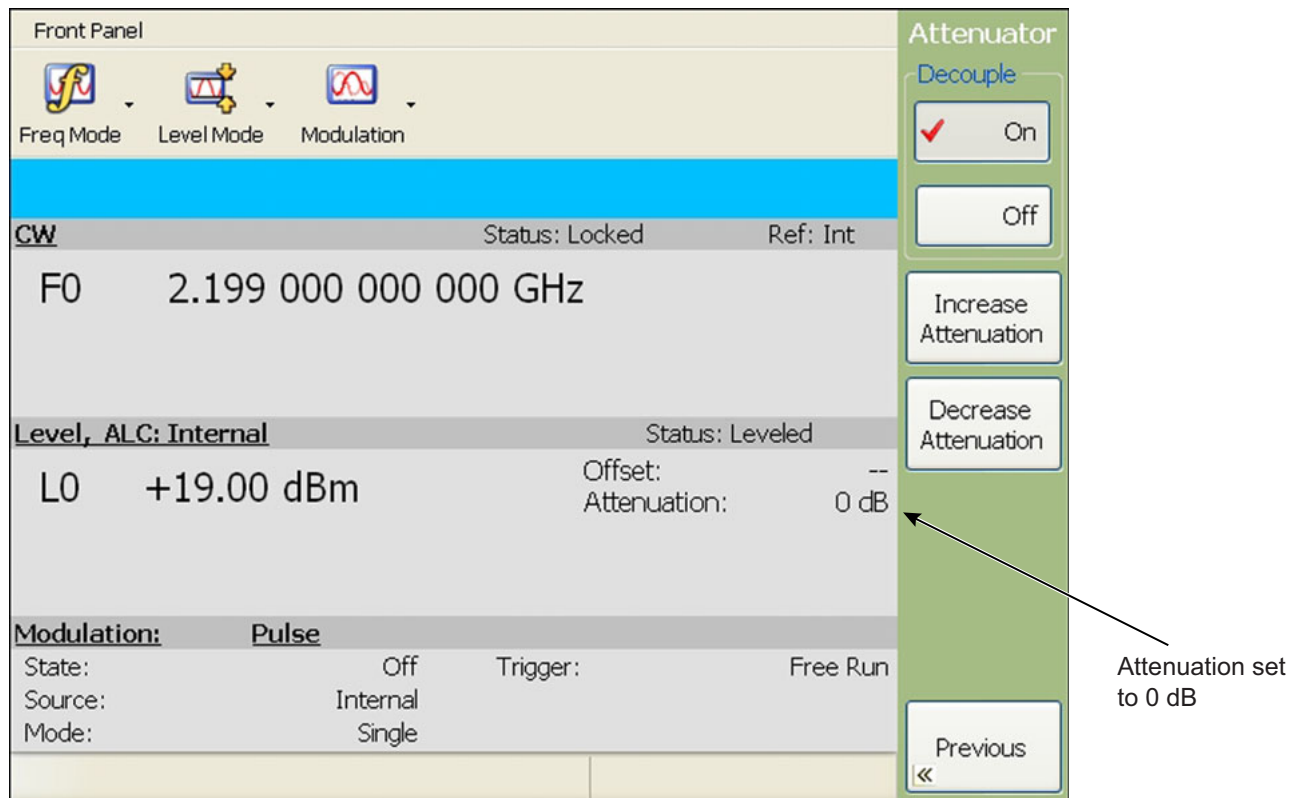

Figure 3-9. Ensuring 0dB attenuation setting
- d. Ensure the Attenuation is set to 0 dB, as shown in Figure 3-9. If not, press Decrease Attenuation until it reads 0 dB.